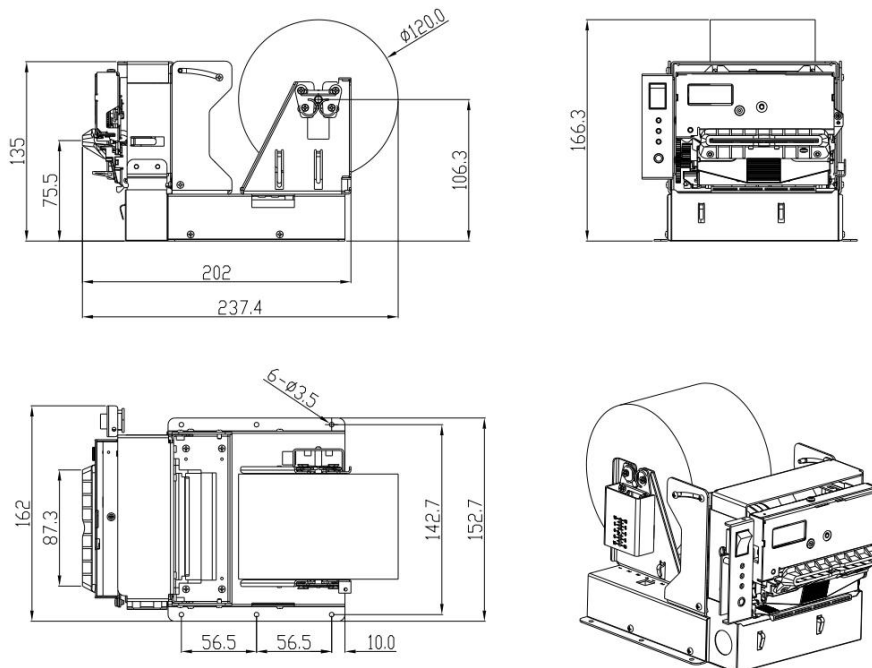

FIG.1-1 SP-EU801 dimensions
- Detail dimension as below figure 1-1: